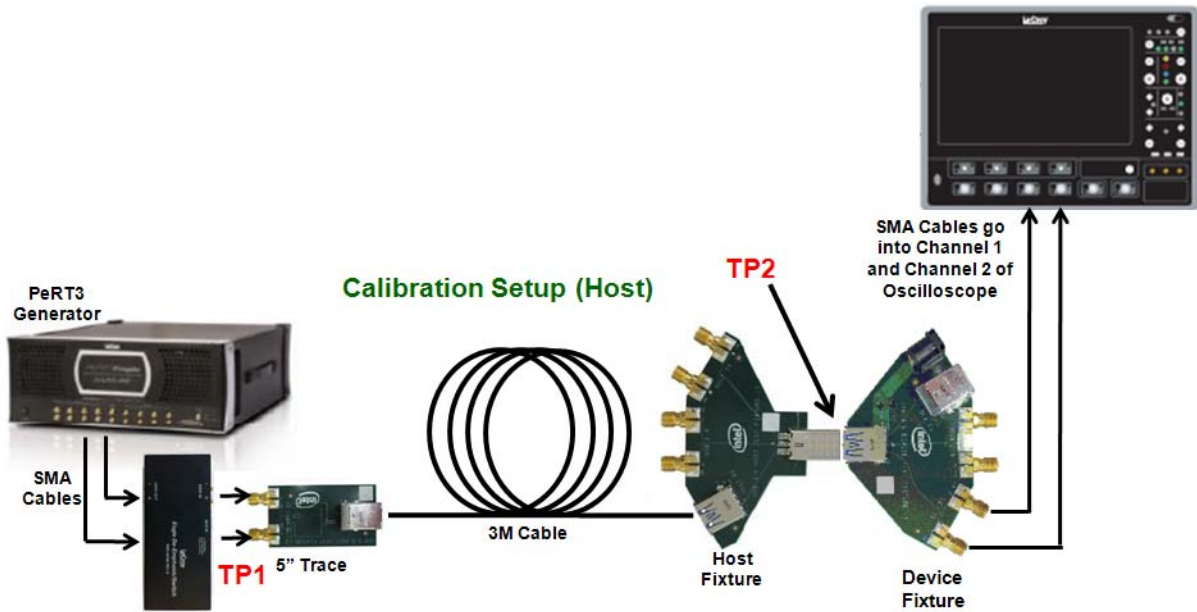

Figure 1c
- Setup the test equipment as described in Figure 1b for Device calibration and Figure 1c for Host calibration:
- o Connect PeRT3 Tx+ and Tx- to channel 1 and channel 2 of scope as shown in Calibration Setup (Figure 1b for Device, and Figure 1c for Host)